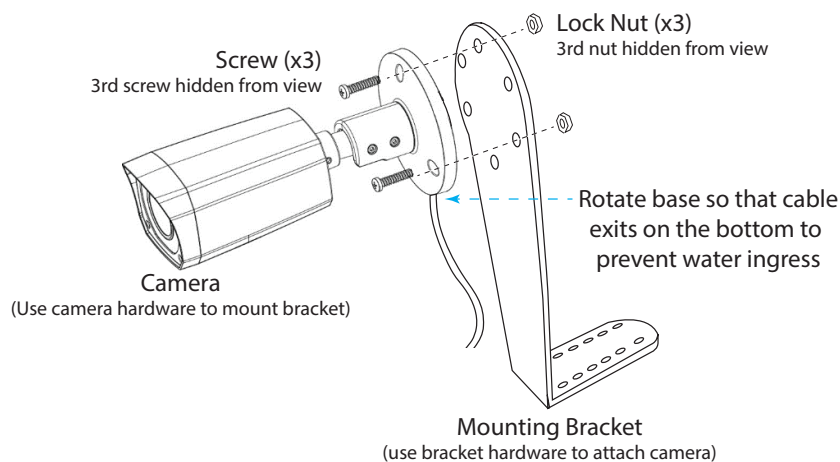

Fig. 2.1
5. Use the hardware package that came with the mounting bracket to attach each camera to a mounting bracket, see Fig 2.1. Use a wrench to secure the nylon-insert lock nuts as you tighten the screws.